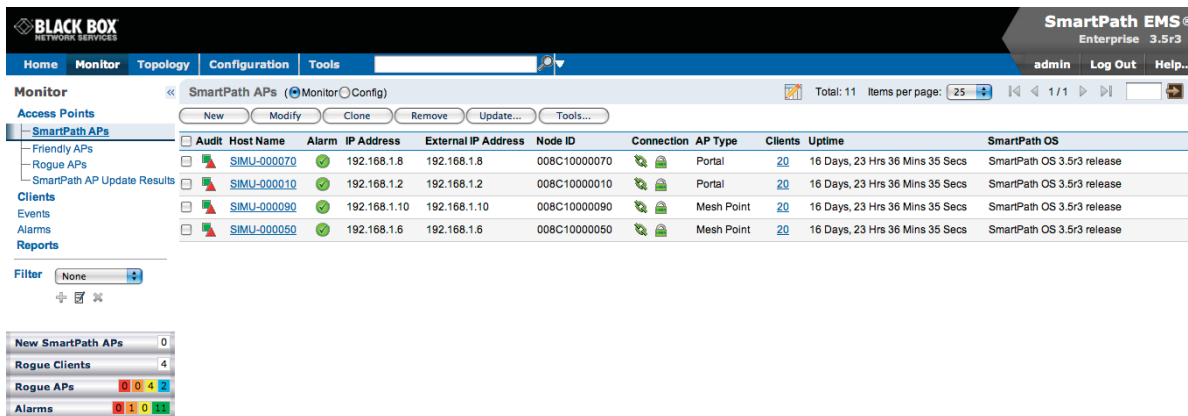

Figure 8-11. Monitor > Access Points > SmartPath APs (view mode: Config).
7. Check your settings in the SmartPath APs window (see Figure 8-11).